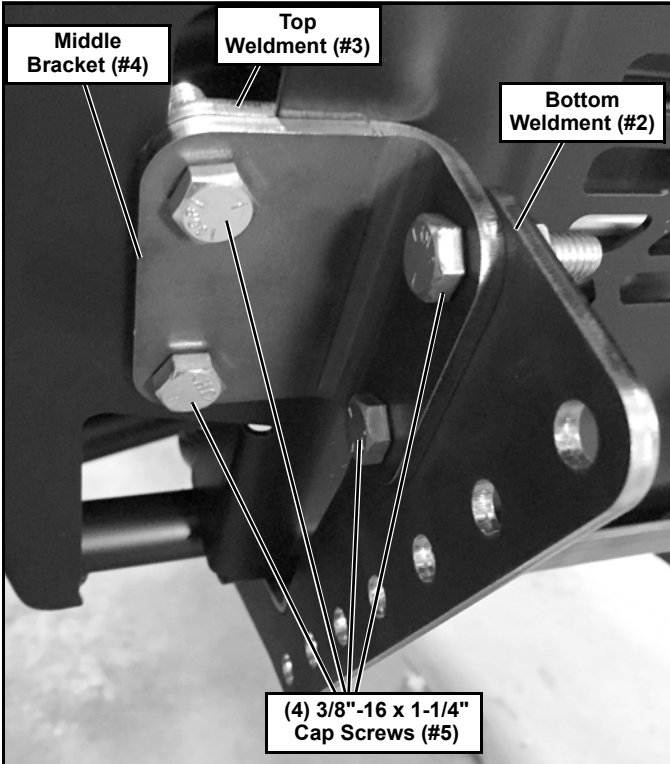

Figure 5
- Repeat steps 6 & 7 on the Passengers Side (See Figure 5).